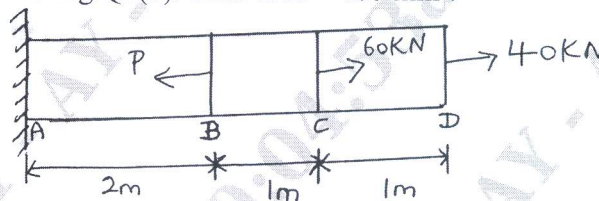

Fig.Q2(b)
b. Determine the magnitude of the load P necessary to produce zero net change in the length of the straight bar shown in Fig.Q2(b). Take area = 400 mm².